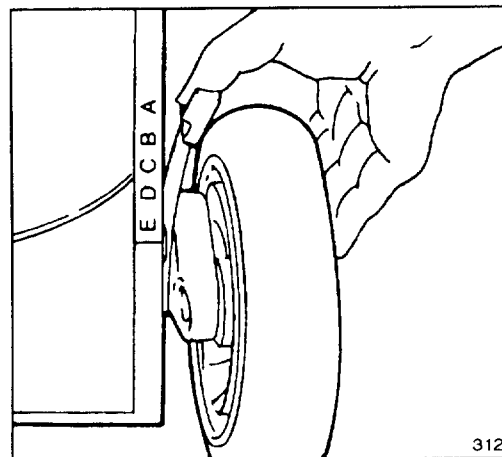

Figure 17
Five letters cast into the housing represent each graduated height-of-cut increment (Fig. 17).
2. For easier adjustment, lift housing up so wheel is off ground. **Do not put fingers under housing when lifting.** Squeeze adjusting lever toward wheel and move to desired setting (Fig. 17). Ensure pin on adjusting lever engages slot in housing. Adjust all wheels to the same setting.